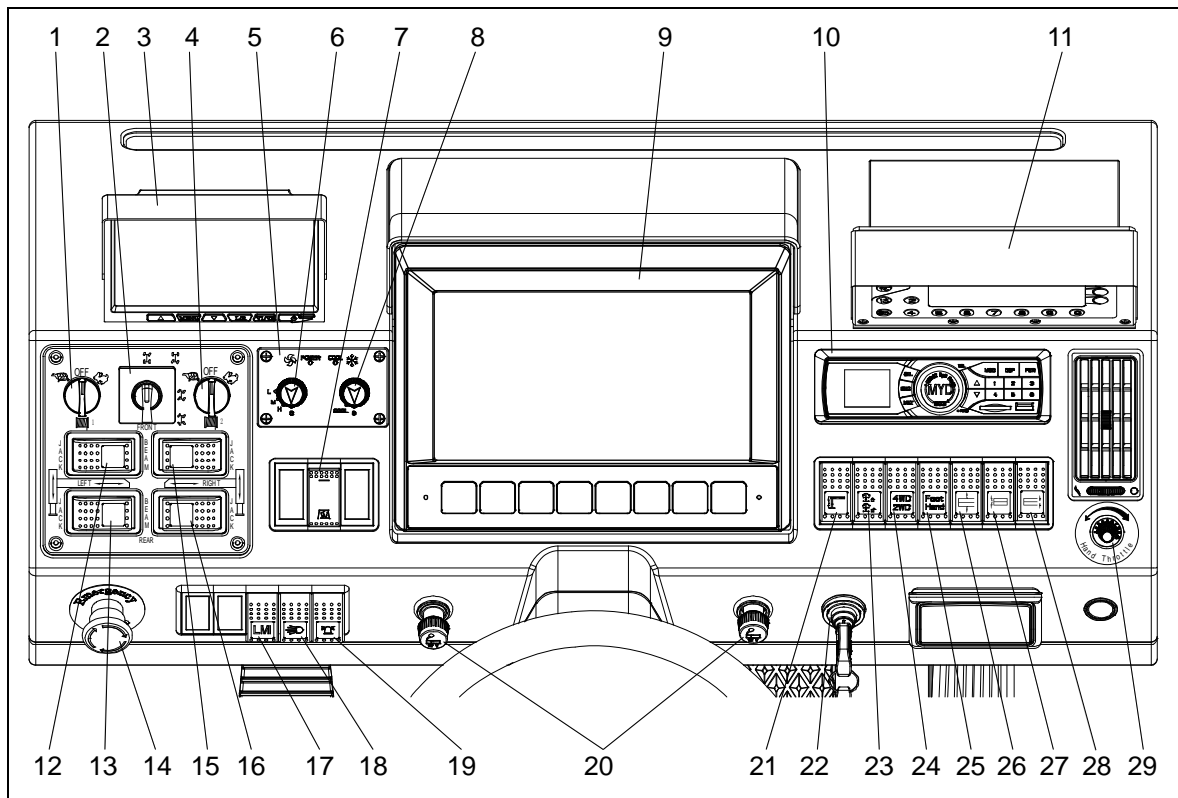

Figure 6-1 Upper Controls and Instruments
2. **LEFT FRONT OUTRIGGER SWITCH** – Used to select the outrigger cylinder (jack or beam) to be extended / retracted with the **OUTRIGGER EXTEND / RETRACT MASTER SWITCH (21)** (Refer to Figure 6-1.).
3. **LEFT REAR OUTRIGGER SWITCH** – Used to select the outrigger cylinder (jack or beam) to be extended / retracted with the **OUTRIGGER EXTEND / RETRACT MASTER SWITCH (21)** (Refer to Figure 6-1.).
6. **RIGHT FRONT OUTRIGGER SWITCH** – Used to select the outrigger cylinder (jack or beam) to be extended / retracted with the **OUTRIGGER EXTEND / RETRACT MASTER SWITCH (21)** (Refer to Figure 6-1.).
7. **RIGHT REAR OUTRIGGER SWITCH** – Used to select the outrigger cylinder (jack or beam) to be extended / retracted with the **OUTRIGGER EXTEND / RETRACT MASTER SWITCH (21)** (Refer to Figure 6-1.).
12. **CAB HEATER POWER SWITCH** – Used to turn on the cab heater. The controls to adjust heat are on the **AIR CONDITIONER CONTROL PANEL (5)** (Refer to Figure 6-1.).
1. **OUTRIGGER EXTEND / RETRACT MASTER SWITCH** – Used with switches (12, 13, 15, 16) (Refer to Figure 6-1.) to extend and retract the outrigger beams or jacks. Push down to retract, up to extend.
8. **HAND THROTTLE** – Rotate to control the throttle (used with switch 25 in Figure 6-1).